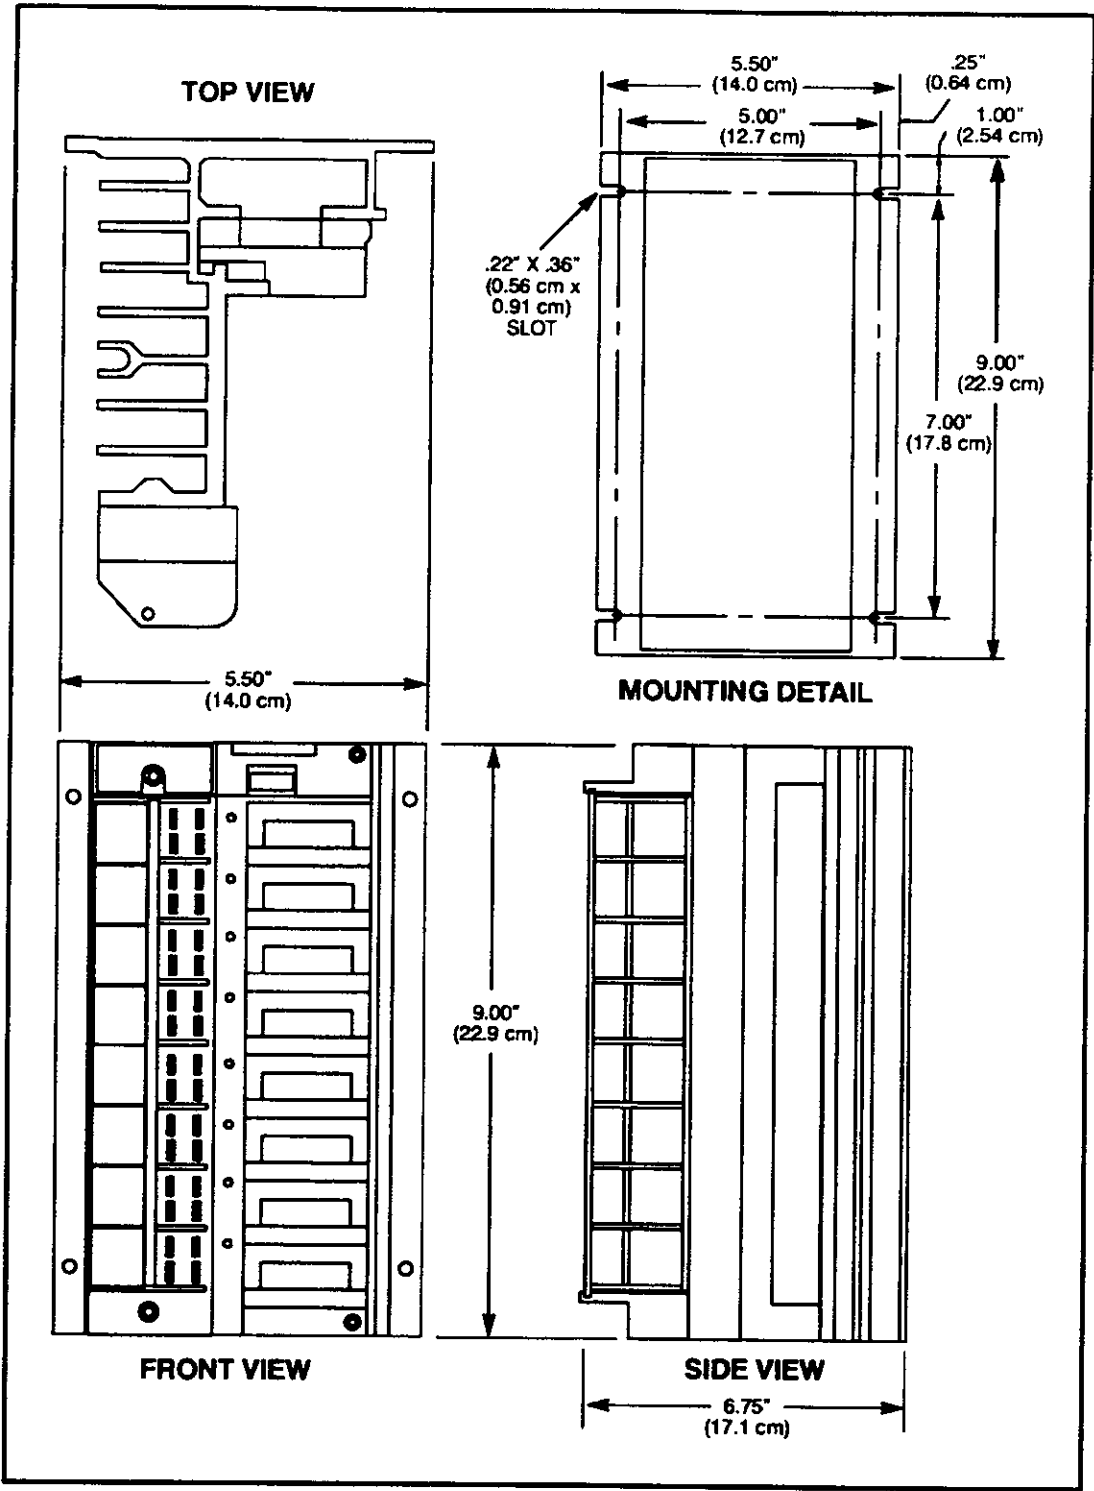
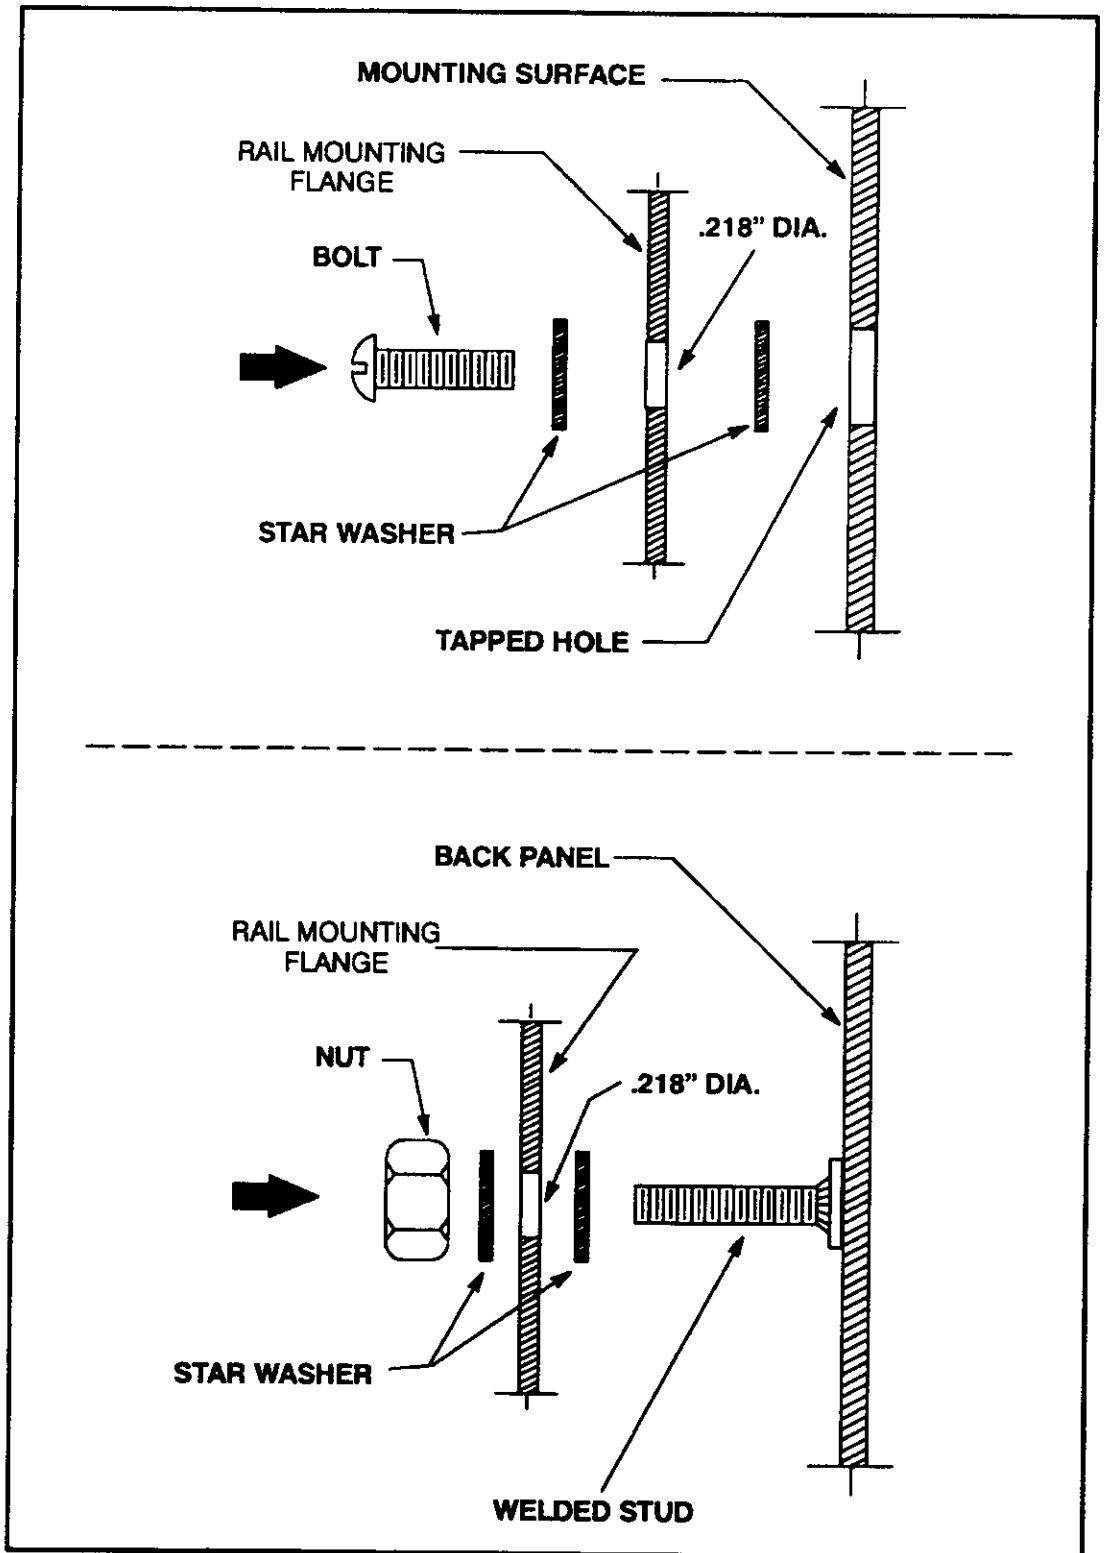

Figure 2.6 - Rail Mounting Dimensions
Figure 2.7 - Rail Mounting Examples
- Step 1. Attach the rail to a flat mounting surface. Figure 2.6 and Appendix A show the mounting dimensions. Figure 2.7 shows two examples of how to attach a rail to its mounting surface. A rail without modules weighs 3 pounds, 15 ounces (1.8 kg).